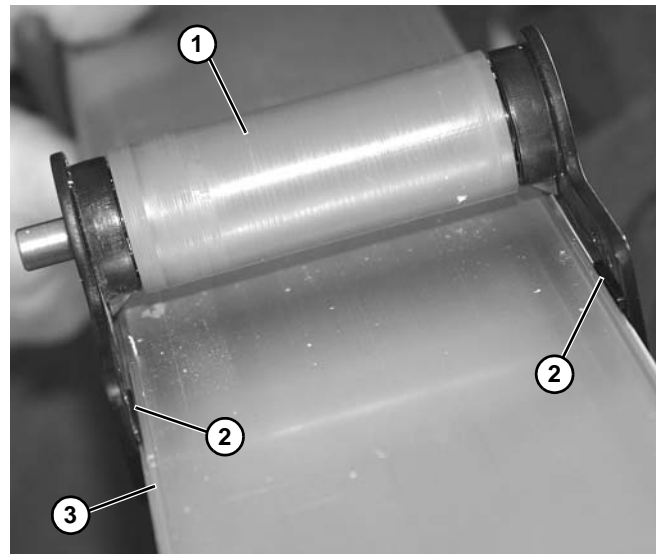

Figure 39
1. Install roller (**Figure 39, item 1**) onto pinch plates, making sure tabs (**Figure 39, item 2**) are seated on each pinch plate are seated onto conveyor frame (**Figure 39, item 3**) as shown.